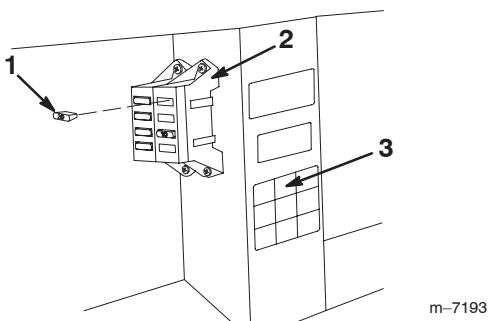

Figure 10
- Insert the 15-amp fuse in the top slot in the fuse block. Make sure the corresponding wire in the fuse block is connected to the red/black wire in the harness (Fig. 10).